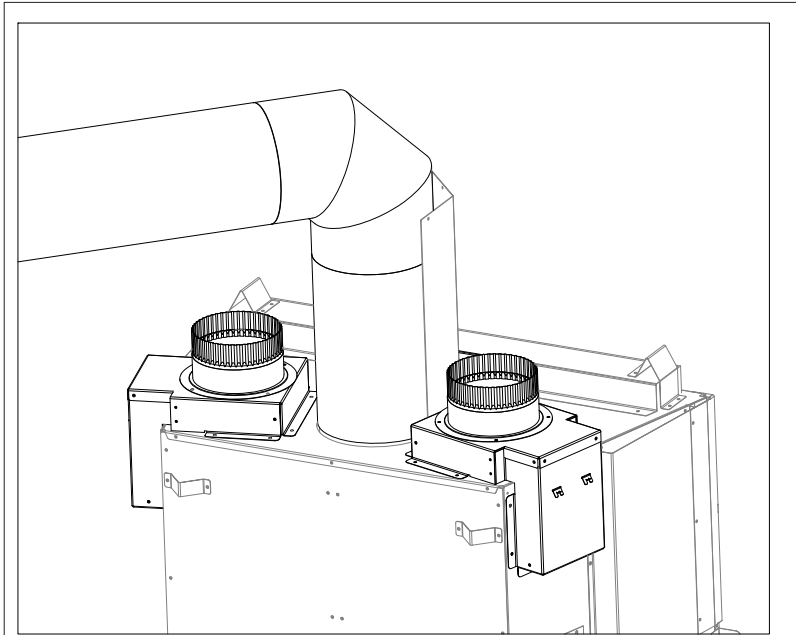
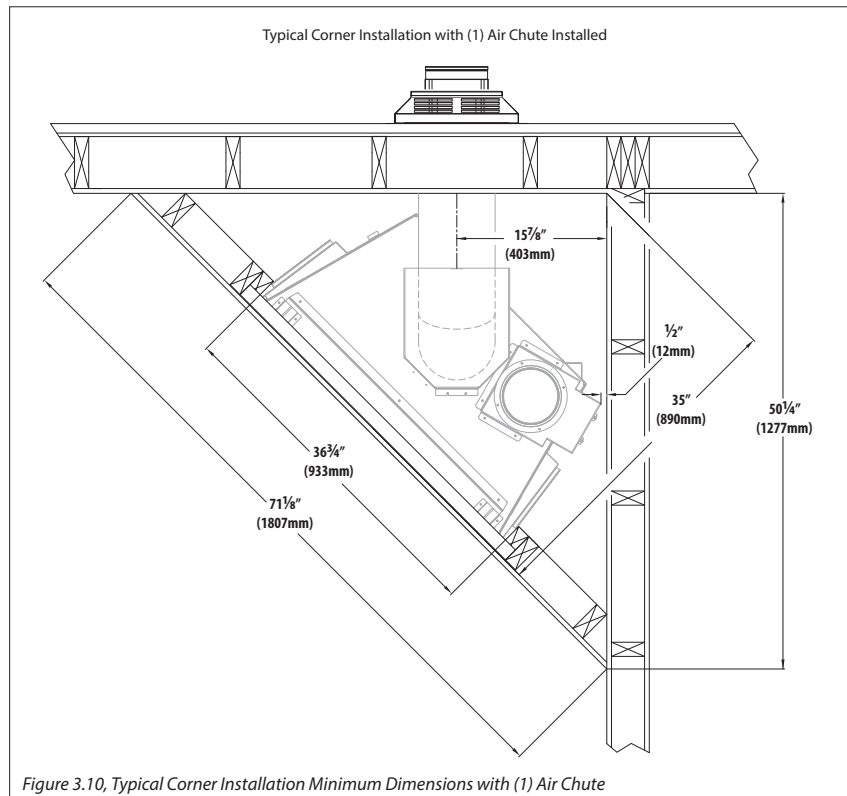

Figure 3.9, Corner Installation Vertical Vent Height with (2) Heat Transfer Air Chutes
Figure 3.10, Typical Corner Installation Minimum Dimensions with (1) Air Chute
You will not be able to install at minimum horizontal venting if you are planning to install (2) heat transfer kits. The vertical vent height length must be increased. See Figure 3.9. If using (1) heat transfer kit, the vent termination must be on the opposite side of the heat transfer kit air chute. See Figure 3.10.
Corner installations have different minimum requirements to allow space for the installation of the SFD-HTK air chute. See Figure 3.10.